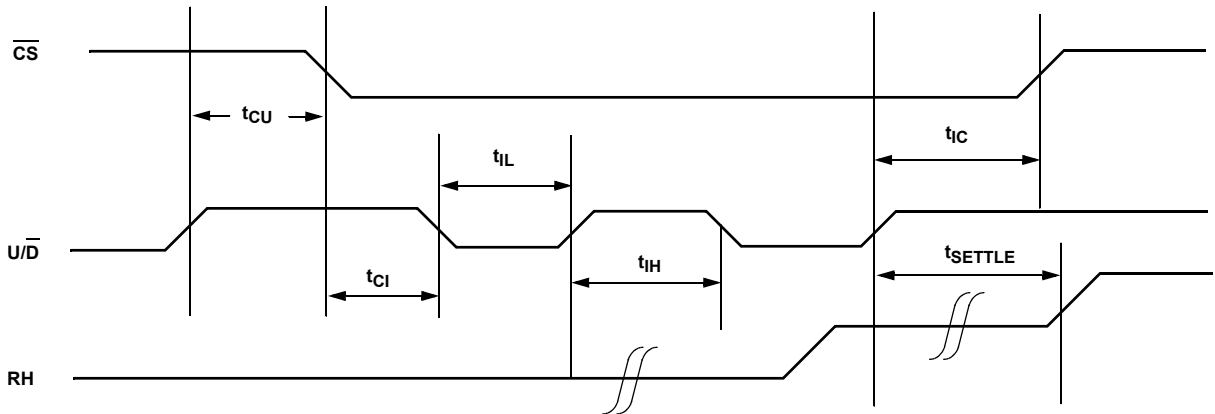

FIGURE 1. SERIAL INTERFACE TIMING DIAGRAM, INCREMENT
**Timing Specifications** Over recommended operating conditions unless otherwise specified) (Figures 1 and 2)